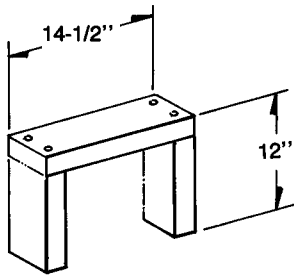

Figure 1
2. Make two mounting frames from 2 x 4's (Figure 1).